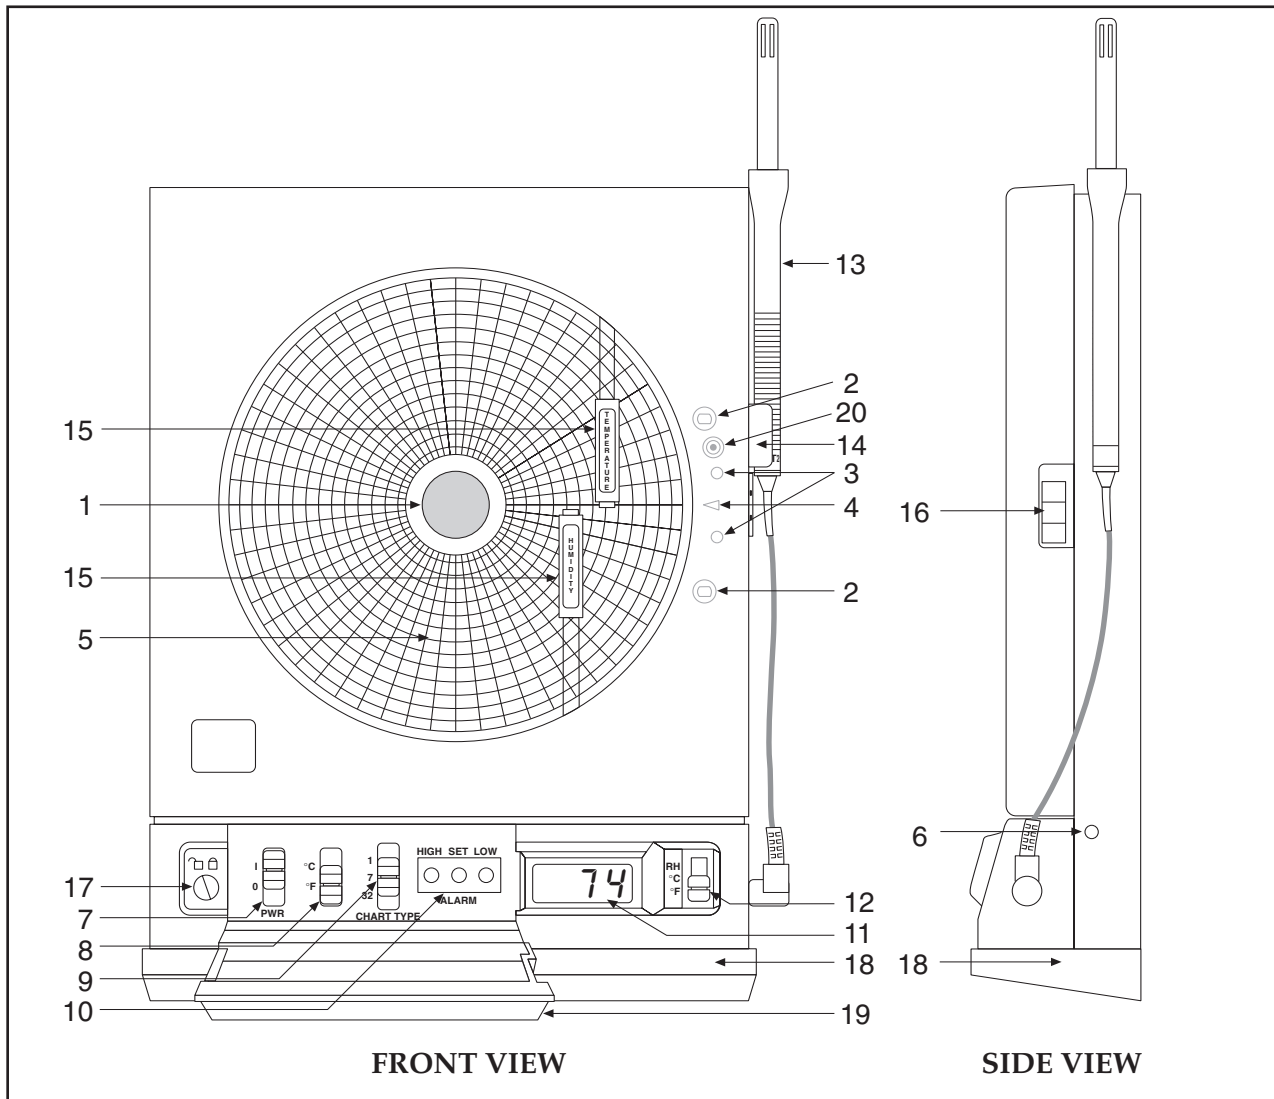

Figure 1-1. Front and Side Views of the Recorder
To mount the recorder on the wall, first locate the wall mounting holes using the template provided in the wall mounting kit. Leave the decorative foot cover (Figure 1-1, item #18) in place*. After drilling the holes, insert the wall anchors and put in the screws, leaving $\frac{1}{8}$ inch (3 mm) between the screw heads and the wall. Hang the recorder by positioning the two (2) "keyholes" in the rear cover over the screw heads.
The recorder can be ac powered using the 9Vdc, 1Amp ac adaptor supplied. The ac power jack is located on the right side of the unit (refer to Figure 1-1, item #6.). Make sure the power switch on the control panel (refer to Figure 1-1, item #7) is in the OFF or "O" position when plugging in the ac adaptor. The adaptor cable is 6 feet (2 meters) long.